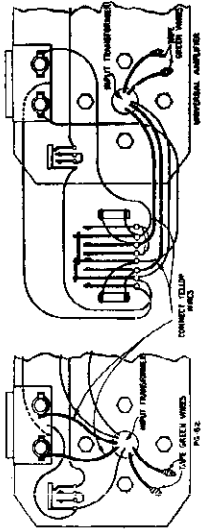

Figure 4—Wiring changes for two microphones operation
- (b) Connect the two yellow transformer leads (500 ohms) to the microphone receptacle. See Figure 4.
- (b) Connect the two yellow transformer leads (500 ohms) to the microphone selector switch at the points from which the two green leads were removed. See Figure 4.